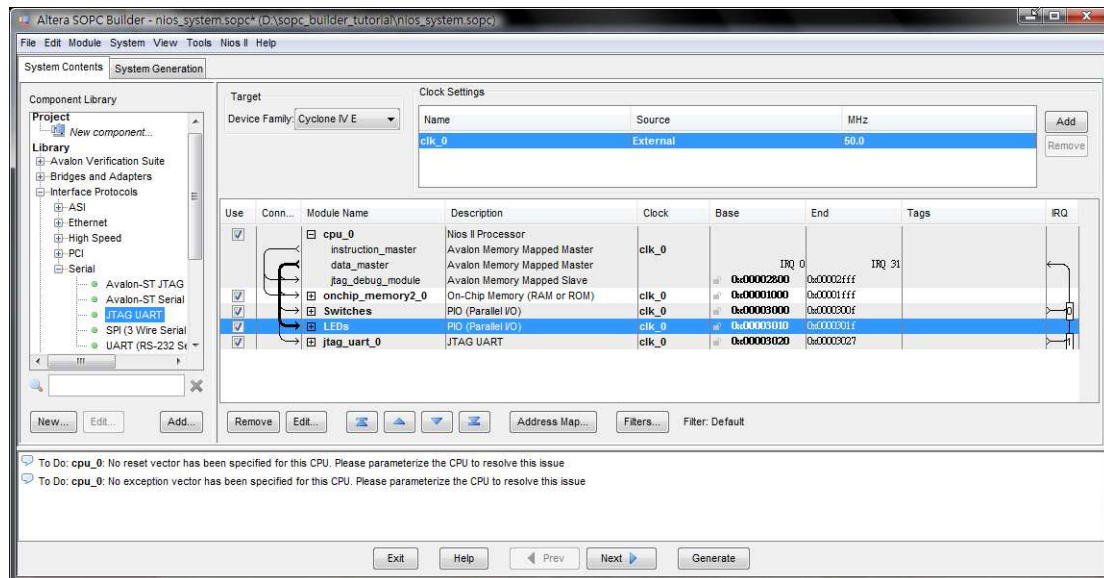

Figure 14.The final specification.
11. The base and end addresses of the various components in the designed system can be assigned by the user, but they can also be assigned automatically by the SOPC Builder. We will choose the latter possibility. So, select the command (using the menus at the top of the SOPC Builder window) **System > Auto-Assign Base Addresses**, which produces the assignment shown in Figure 14.
A parallel I/O interface generated by the SOPC Builder is accessible by means of registers in the interface. Depending on how the PIO is configured, there may be as many as four registers. One of these registers is called the Data register. In a PIO configured as an input interface, the data read from the Data register is the data currently present on the PIO input lines. In a PIO configured as an output interface, the data written (by the Nios II processor) into the Data register drives the PIO output lines. If a PIO is configured as a bidirectional interface, then the PIO inputs and outputs use the same physical lines. In this case there is a Data Direction register included, which determines the direction of the input/output transfer. In our unidirectional PIOs, it is only necessary to have the Data register. The addresses assigned by the SOPC Builder are 0x00003000 for the Data register in the PIO called Switches and 0x00003010 for the Data register in the PIO called LEDs, as indicated in Figure 14.